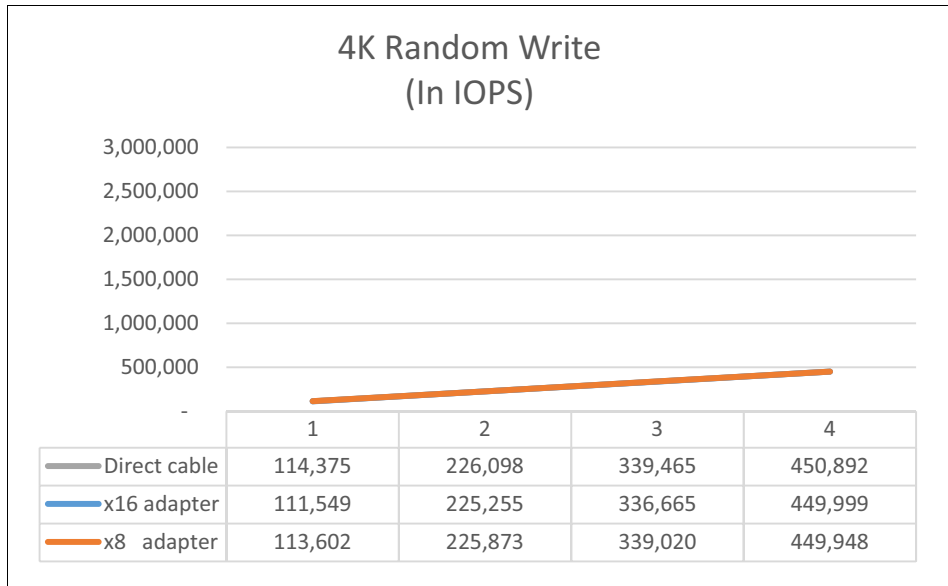

Figure 5 Results of 4K random write
Figure 5 shows throughput in I/O operations per second (IOPS) for a 100% random write workload using 4KB blocks.
**Note:** Figure 5 only appears to show the orange line for the x8 adapter. That is because the grey and blue lines are nearly identical and are hidden underneath the orange line.
Figure 5 shows with the slower write than read behavior on NAND flash technology and small access block size, the disks do not hit any limitation on 4KB random write. All three configurations perform equally with good scaling outputs.